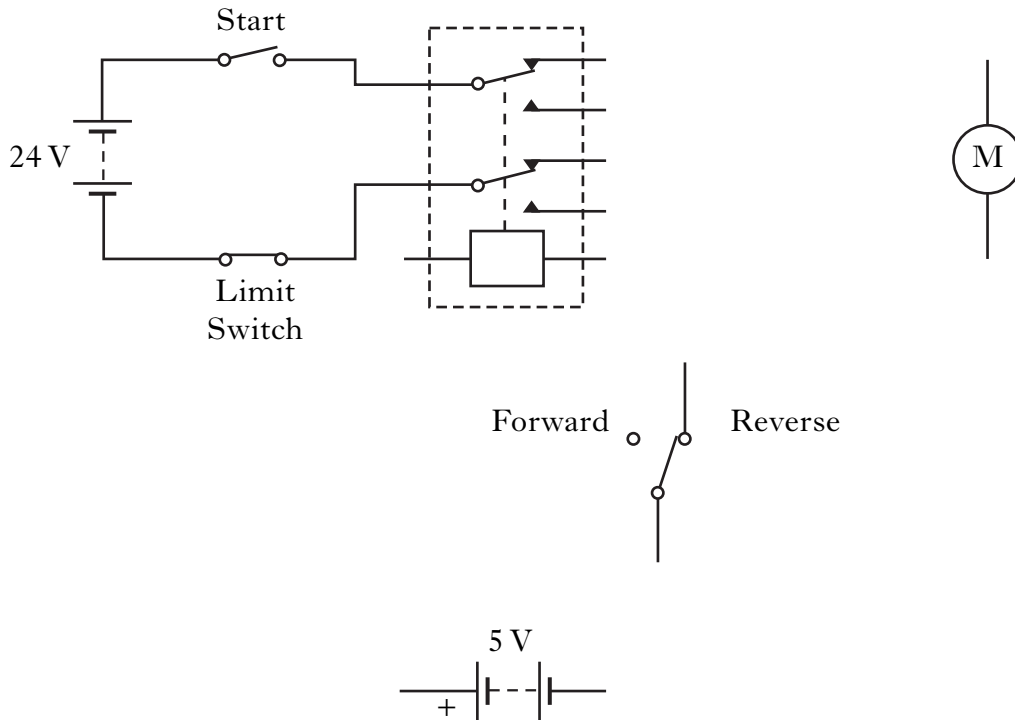

Figure Q9(b)
- (b) Complete the electrical circuit in Figure Q9(b) to allow the buggy motor to **reverse**.